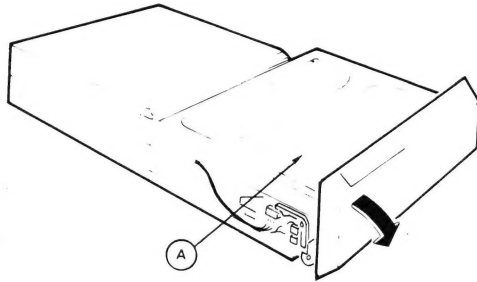

Figure 2.1
- Remove dummy cartridge A. (Figure 2.1.)